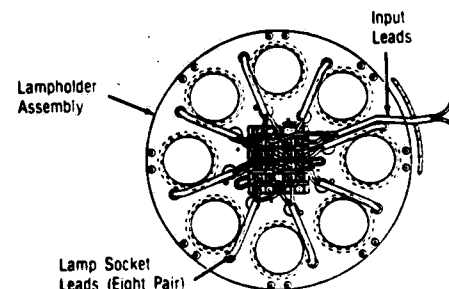

Figure 4-2. LAMP HOLDER TERMINAL BLOCK CONNECTIONS.
4. Disconnect the two input leads one at a time. See Figure 4-2. **Note:** Input leads have ring terminals, therefore terminal block connection screws must be temporarily removed. Replace each screw immediately to maintain proper lamp socket wiring.
2. Disconnect the lamp socket leads from the terminal block (one lead from each of the sockets in series). Remove the socket from the lampholder plate by pulling leads through clearance hole in plate one at a time. See Figure 4-2.
1. Connect the two input leads to terminal block (see Figure 4-2).